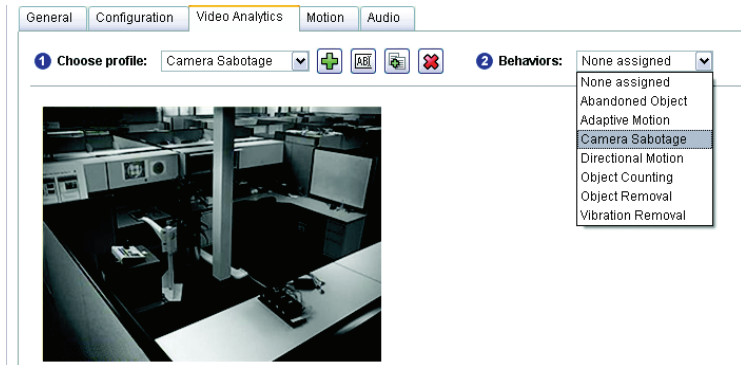

Figure 4. Selecting a Behavior
- Select Camera Sabotage from the Behaviors list (refer to Figure 4). The Global Settings area of the screen displays the required settings for this behavior.